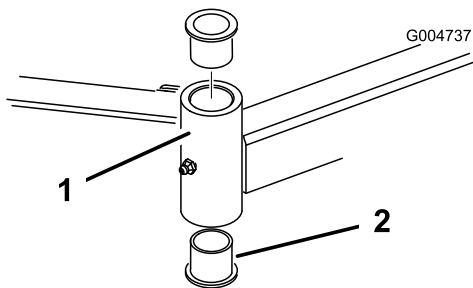

Figure 24
4. Insert a pin punch into the top or bottom of the mounting tube and drive the bushing out of the tube (Figure 24). Also drive the other bushing out of the tube. Clean the inside of the tubes to remove dirt.